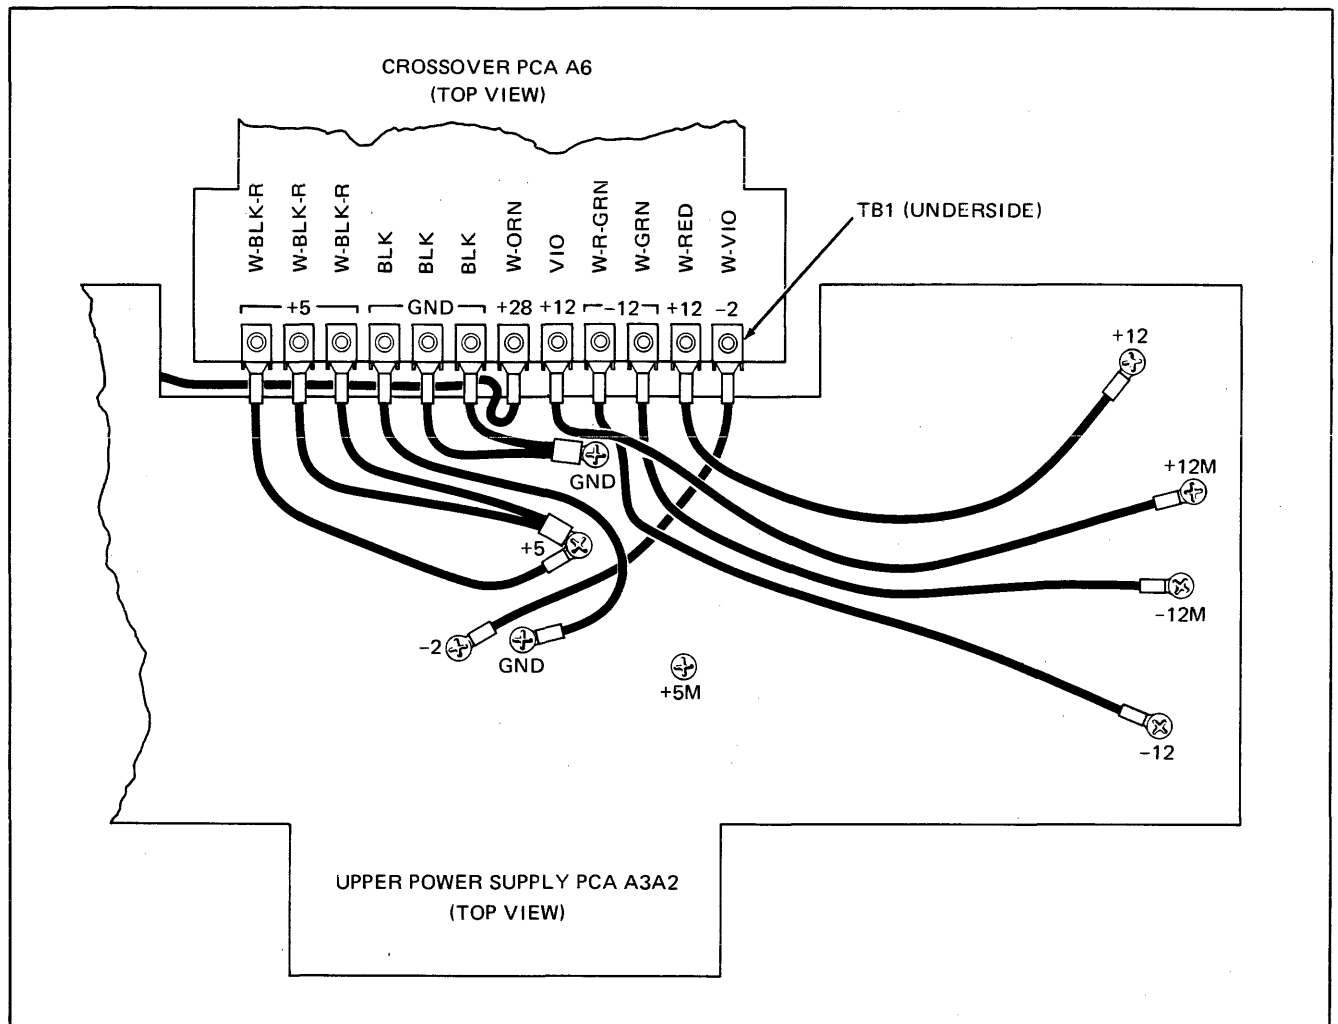
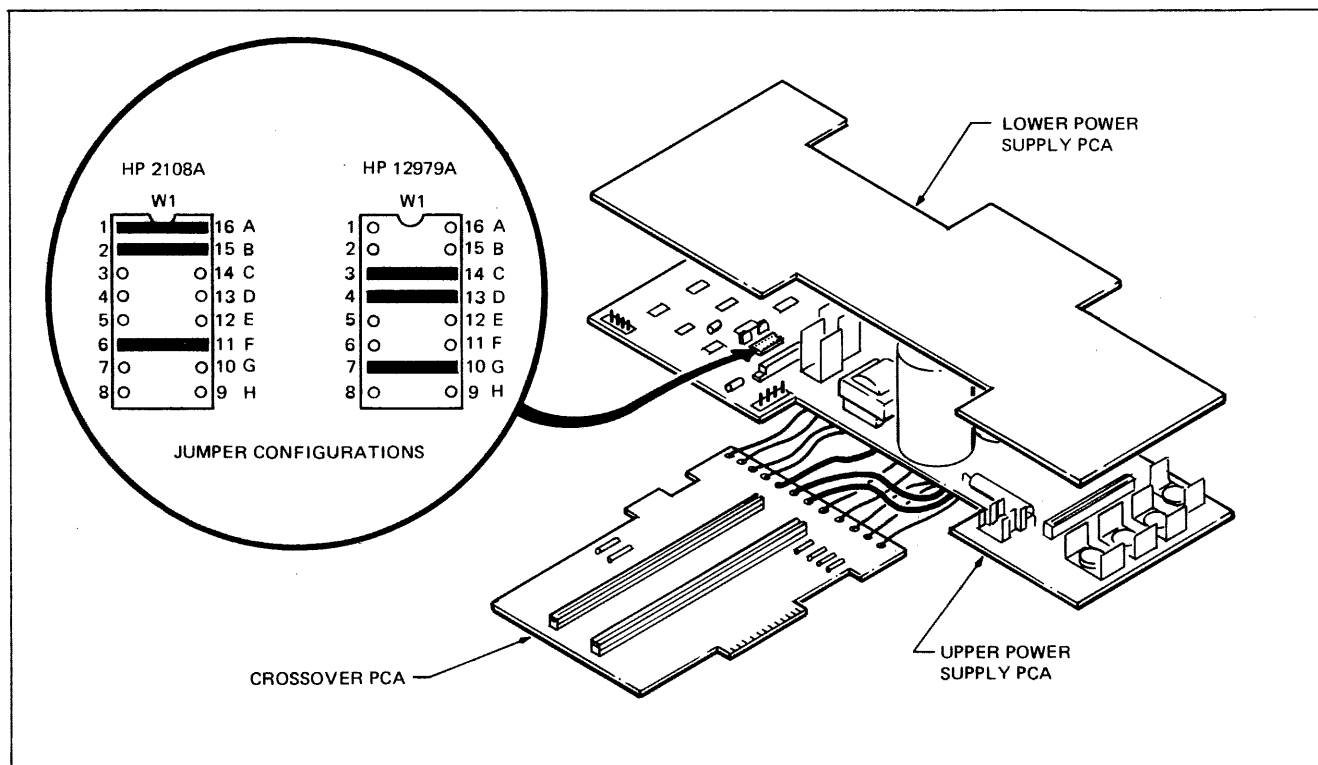
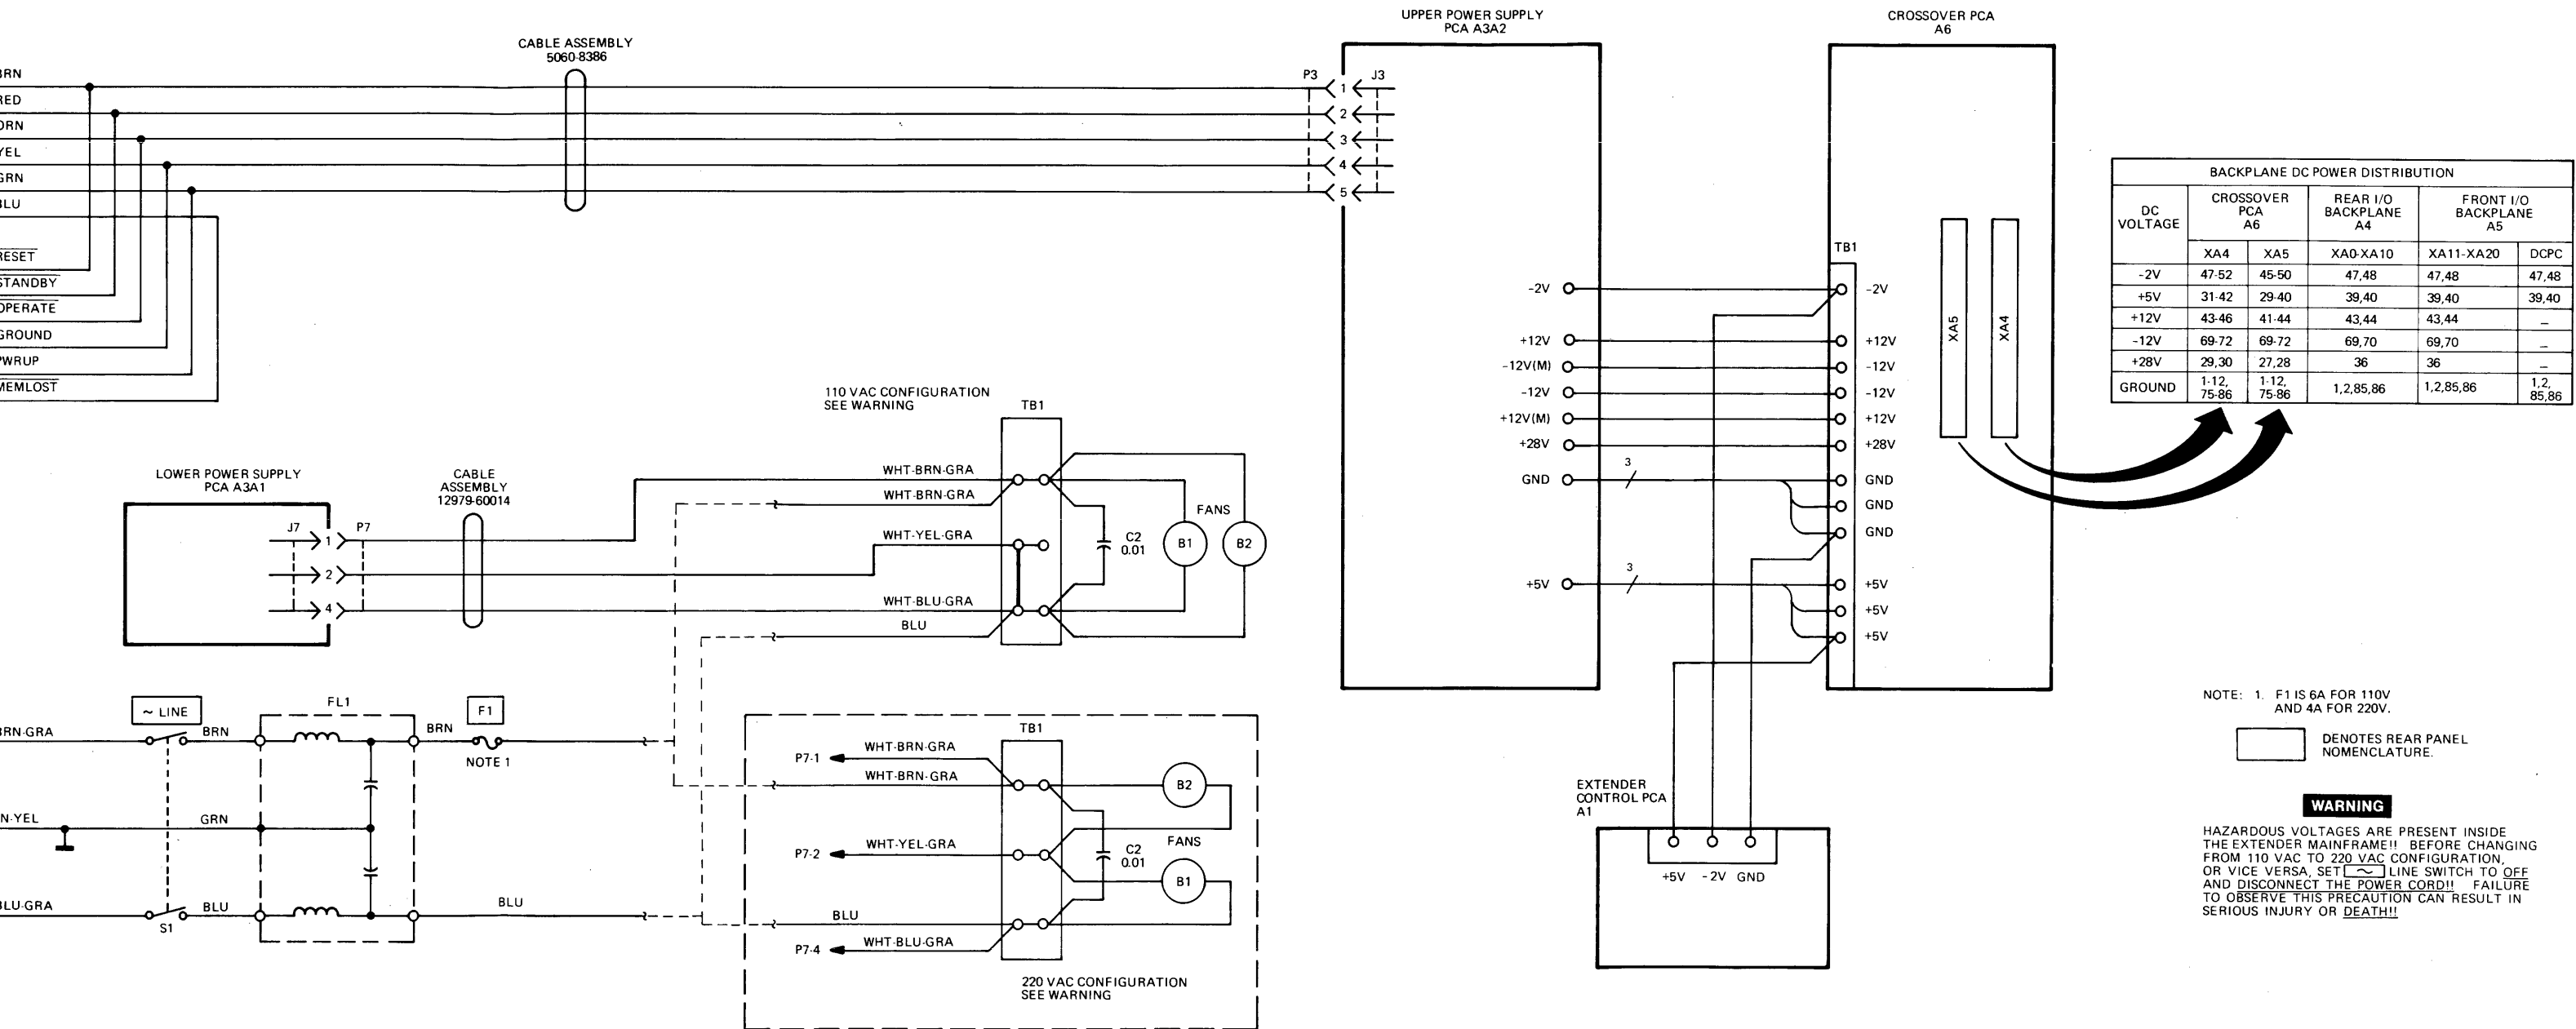

Figure 3-3. Crossover PCA Power Connections
Figure 3-4. Power Supply Jumper Configurations
Figure 3-5. Power Distribution Diagram
- c. Carefully lift crossover PCA to free it from backplane edge connectors; bend crossover PCA back to access terminal block TB1. (See figure 3-3.)
- b. Remove the four screws and six washers securing power supply shield (34) to extender mainframe and remove.
- c. Remove rear cover (25) and loosen rear PCA retainer (24); slide retainer to the right.
- d. Remove remaining four screws and washers securing cable channel (28) to extender mainframe and remove.
- e. Remove the four screws securing rear panel (18) to extender mainframe.
- g. Remove the eight long screws (41) and washers (42) securing upper power supply PCA to extender mainframe.
- h. Remove the two screws (43) and washers (44) securing the lower power supply PCA to extender mainframe.
- i. Lift power supply (40) up and out of extender mainframe.
- 3-47. REPLACEMENT.** If installing a replacement power supply, configure the jumpers located on the component side of upper power supply PCA as required for the HP 12979A I/O Extender. (See figure 3-4.) After configuring the power supply jumpers, replace power supply in the reverse order of the removal procedure. Attach the crossover PCA to the upper power supply PCA as shown in figure 3-3.
To reconfigure the extender to operate from 220-volt mains instead of 110-volt mains (or vice versa), refer to figure 3-5 and proceed as follows:
Figure 3-5 shows the wiring between the backplanes, power supply, and other extender subassemblies. The diagram is not complete in itself but must be used with figure 3-3 to determine the point-to-point wiring between the components illustrated.